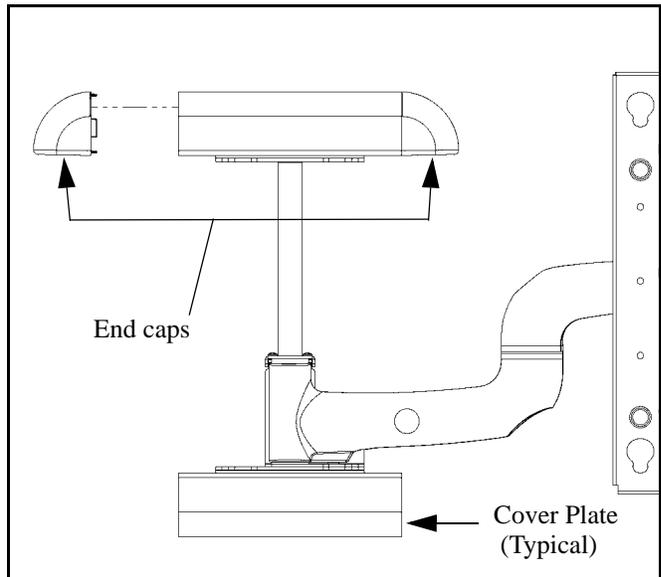

Figure 4: Install Cover Plates
2. Install end caps (30) on the ends of both cover plates (20). See Figure 4.